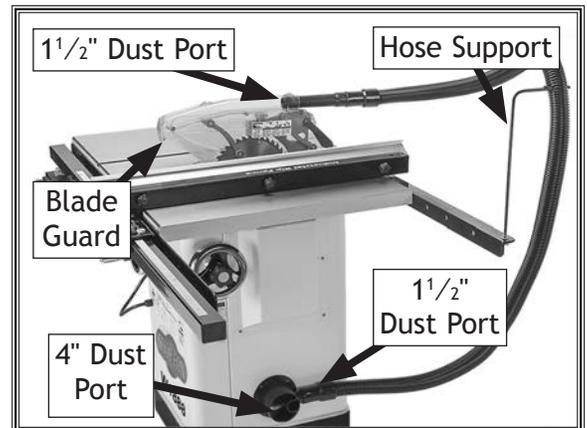

Figure 34. Dust hose attached to saw, hose support, and blade guard dust port.
32. Slide one adapter onto 1 1/2" dust port until it fits snugly (see **Figure 34**).
33. Attach dust hose to dust hose support then insert dust port into rear of blade guard assembly (see **Figure 34**).